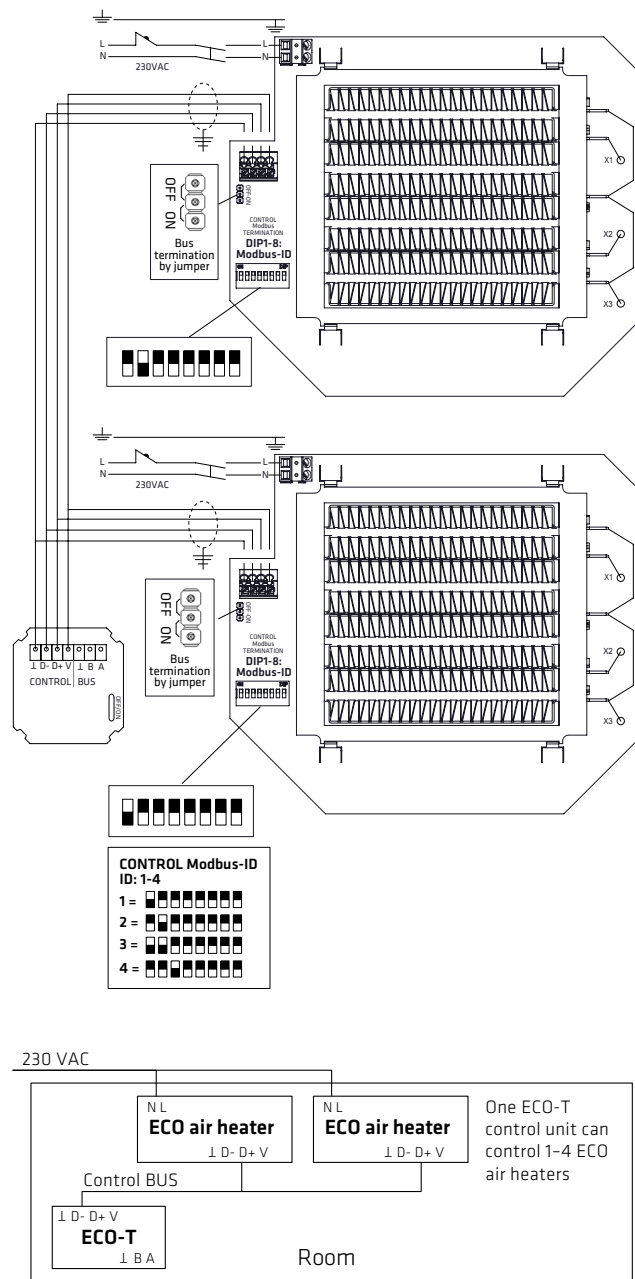

Figure 3.3
4. Activate the terminator by moving the termination jumper to the ON position in the first and last device of the bus, as shown in Figure 3.3.